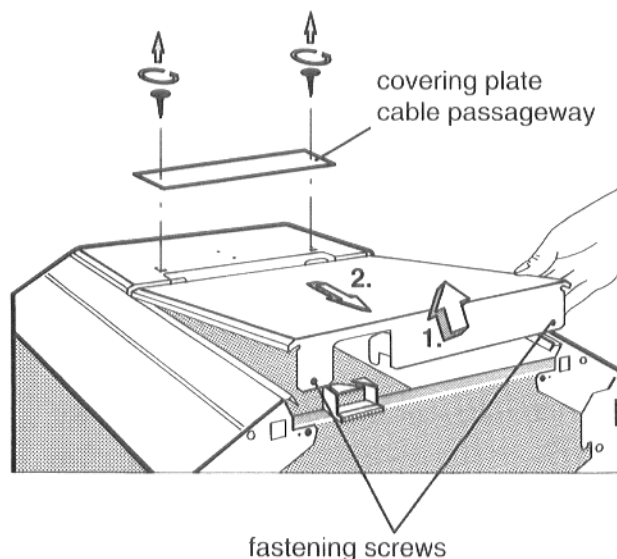

Fig. 11
- Remove both self-tapping screws from the covering plate of the cable passageway and remove the covering plate (Fig. 11).
- Remove both fastening screws in the rear part of the boiler jacket (Fig. 11)